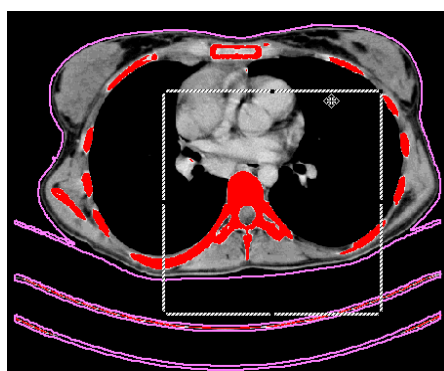

Figure 272 – Moving the rectangle constraint
- Move the rectangle or drag the sides to change its size until the desired area is demarcated (see Figure 272).